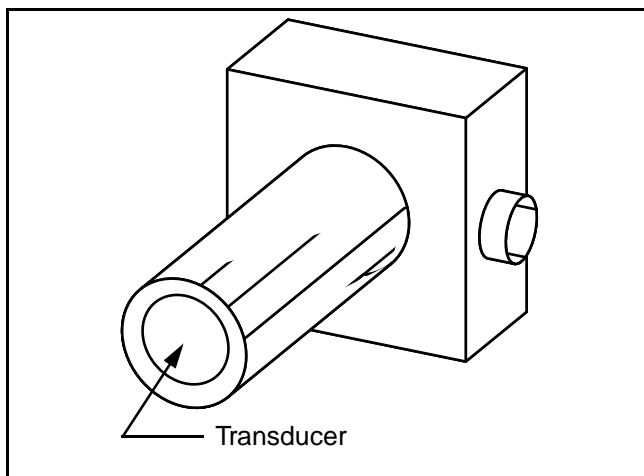

Figure 3 - 57 Cleaning sonic sensor
- 3) Check transducer daily for material buildup. The transducer can be cleaned with Simple Green cleaning fluid. Place cleaning fluid on a clean rag and rub transducer gently to remove any material. Wipe transducer clean and dry. (Figure 3 - 57)